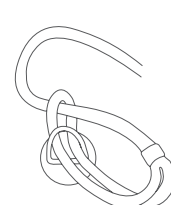

Fig 22 -
2. Pass the other end of the Dock Line through the spliced loop (Fig 22).